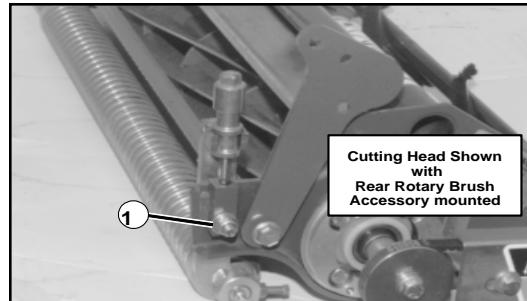

Figure 17
2. Loosen the locking nut on **one** of the front roller adjusting brackets just enough to allow adjustment (See Fig. 17).